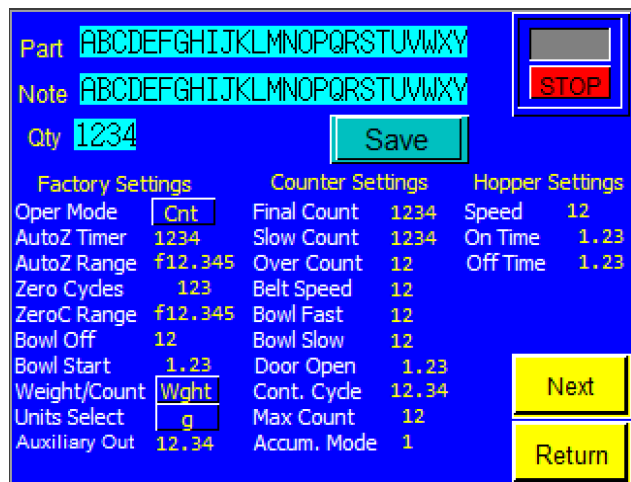

Figure 3-17
**View Settings** displays the stats of the current settings for the current job. From here, there is an option to save these settings to recall later in the recipe log. To save, enter a name for the part, a note to identify the recipe and a quantity. Then touch **Save** and the settings will be stored. See Figure 3-17. This function can be found in the Main Menu under **Settings** in all three modes under the **View Settings** button.